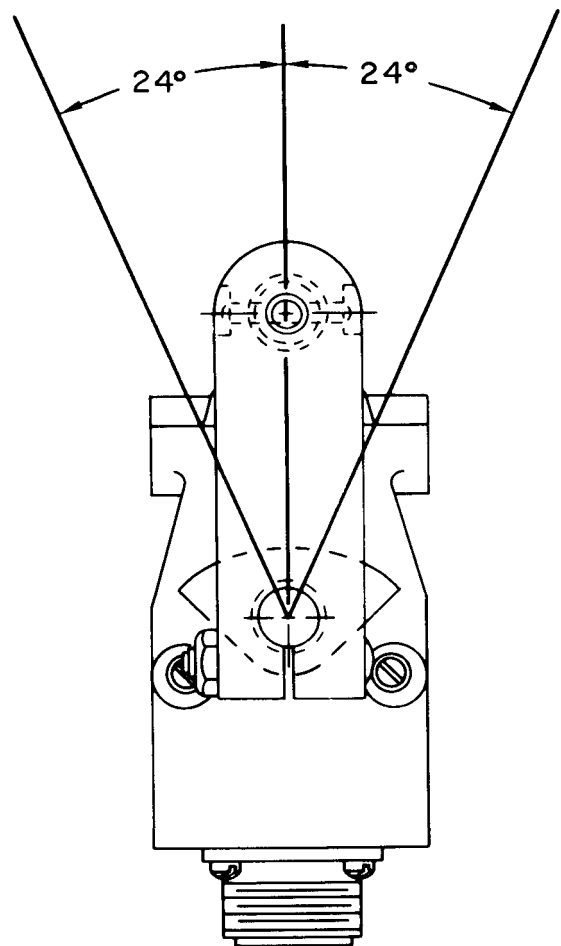

Figure 4-1. Stroke Setting Diagram, 24°, Part No. R460M10.
a. Mount the magnetic brake on limit-setting holding fixture AT1977, using limit-setting adapter AT1890-7. Mount limit-setting fixture AT1890 on the holding fixture. Connect the magnetic brake to dc test panel AT2878 and energize the magnetic brake. Loosen screws (21) and turn eccentrics (20) to limit the movement of positive stop (8) (each side of center) to the mechanical stroke limits specified in figure 4-1. Secure eccentrics (20) by tightening screws (21).
l. Remove crank arm assembly and install load test pulley AT2103 on output shaft of magnetic brake. Apply a torque of 5 inch-pounds (one-pound weight) in a counter-clockwise direction. Crank arm shall move through complete stroke. (See figure 4-1).